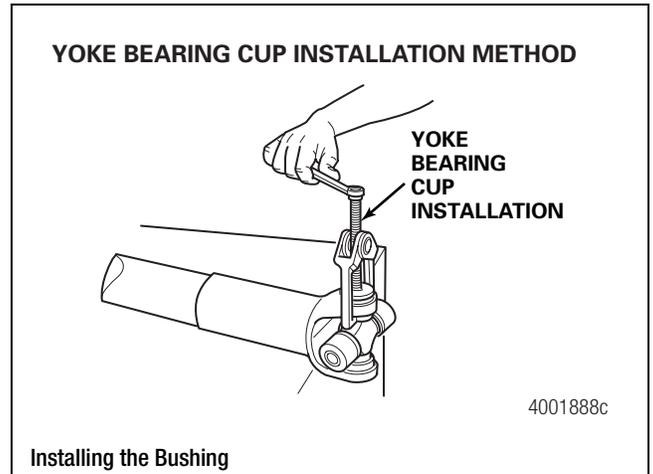
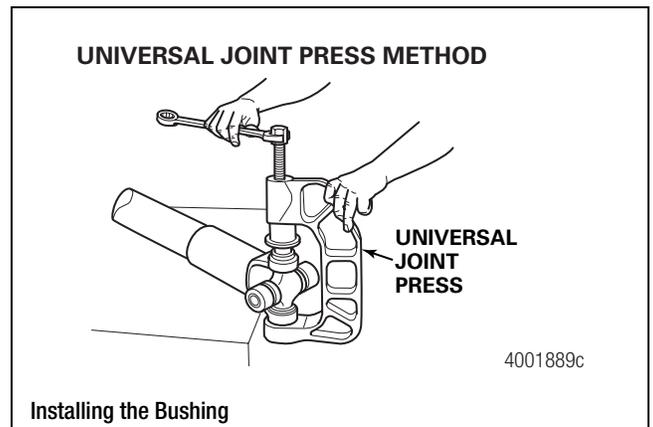
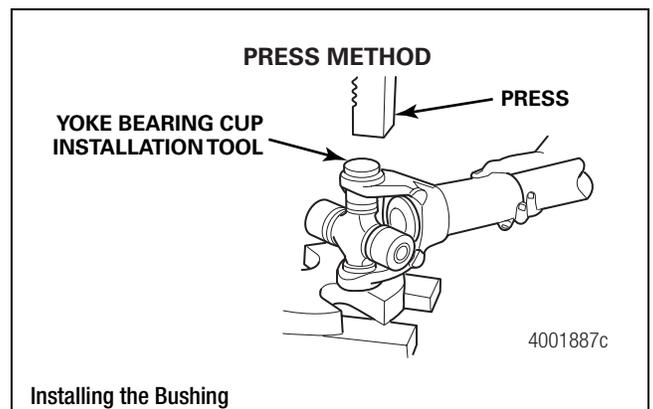

Figure 8.29
Figure 8.30
Figure 8.31
4. Use an appropriate press, yoke bearing cup installation tool or universal joint press to install the first bushing slightly past the snap ring groove. When the bearing cup installation tool contacts the yoke, it is installed correctly. Figure 8.29, Figure 8.30 and Figure 8.31.
7. Use an appropriate press, yoke bearing cup installation tool or universal joint press to install the second bushing slightly past the snap ring groove. Check that the bushing is aligned with the universal joint. Figure 8.29, Figure 8.30 and Figure 8.31.